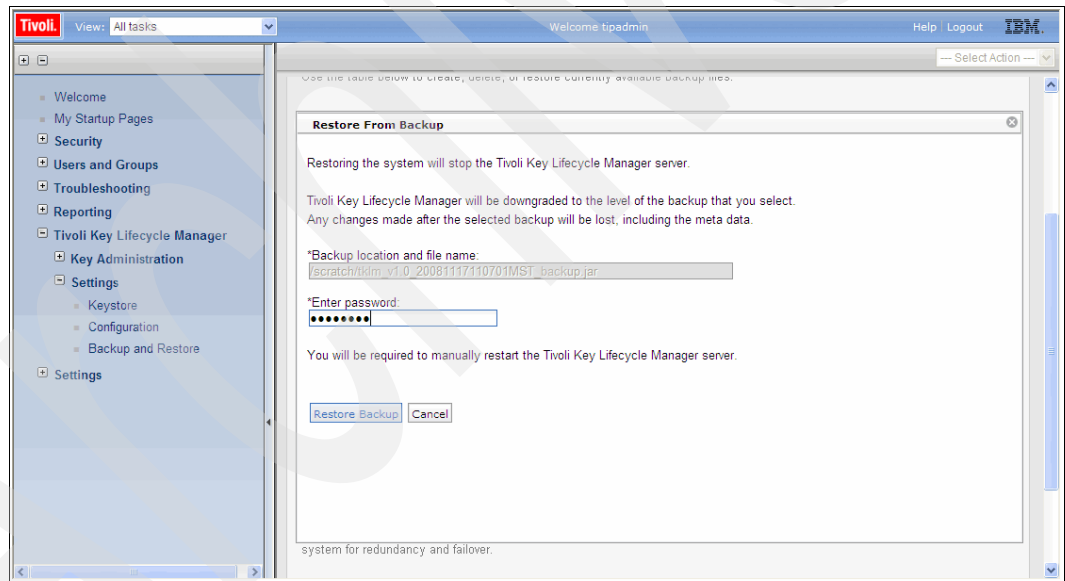

Figure 8-5 Enter the password
3. Enter the password for the backup file, as shown in Figure 8-5.